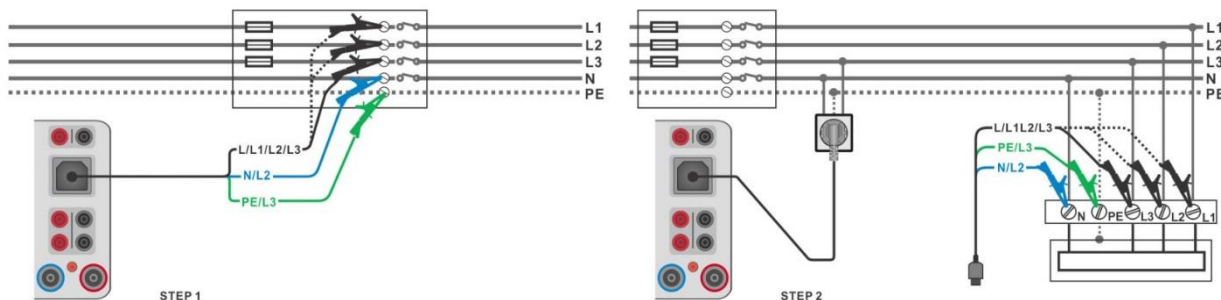

Figure 6.87: Zref (STEP1) and Voltage drop (STEP2) measurement – connection of Plug test cable or 3-wire test lead
- › Connect 3-wire test lead to the origin of electrical installation, see **Figure 6.87**.
- › Connect 3-wire test lead or Plug test cable to the tested points, see **Figure 6.87**.